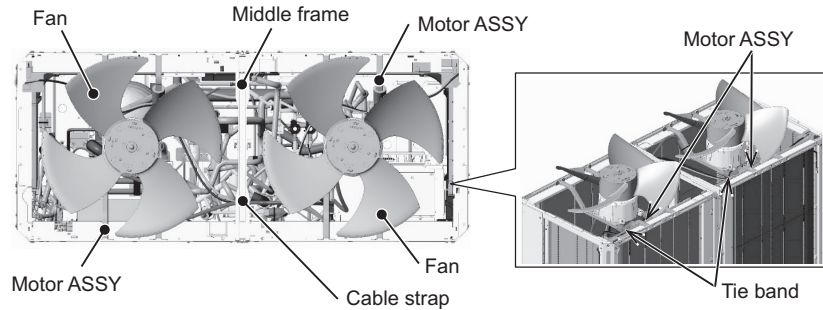

Figure 9
- (11) Remove the wiring from the middle frame. (Figure 9)
- (12) Remove the tie bands holding the motor ASSY and the unit wiring.
Remove the motor ASSY, using caution not to damage the motor wires or the fans. (16 screws, Figure 9)